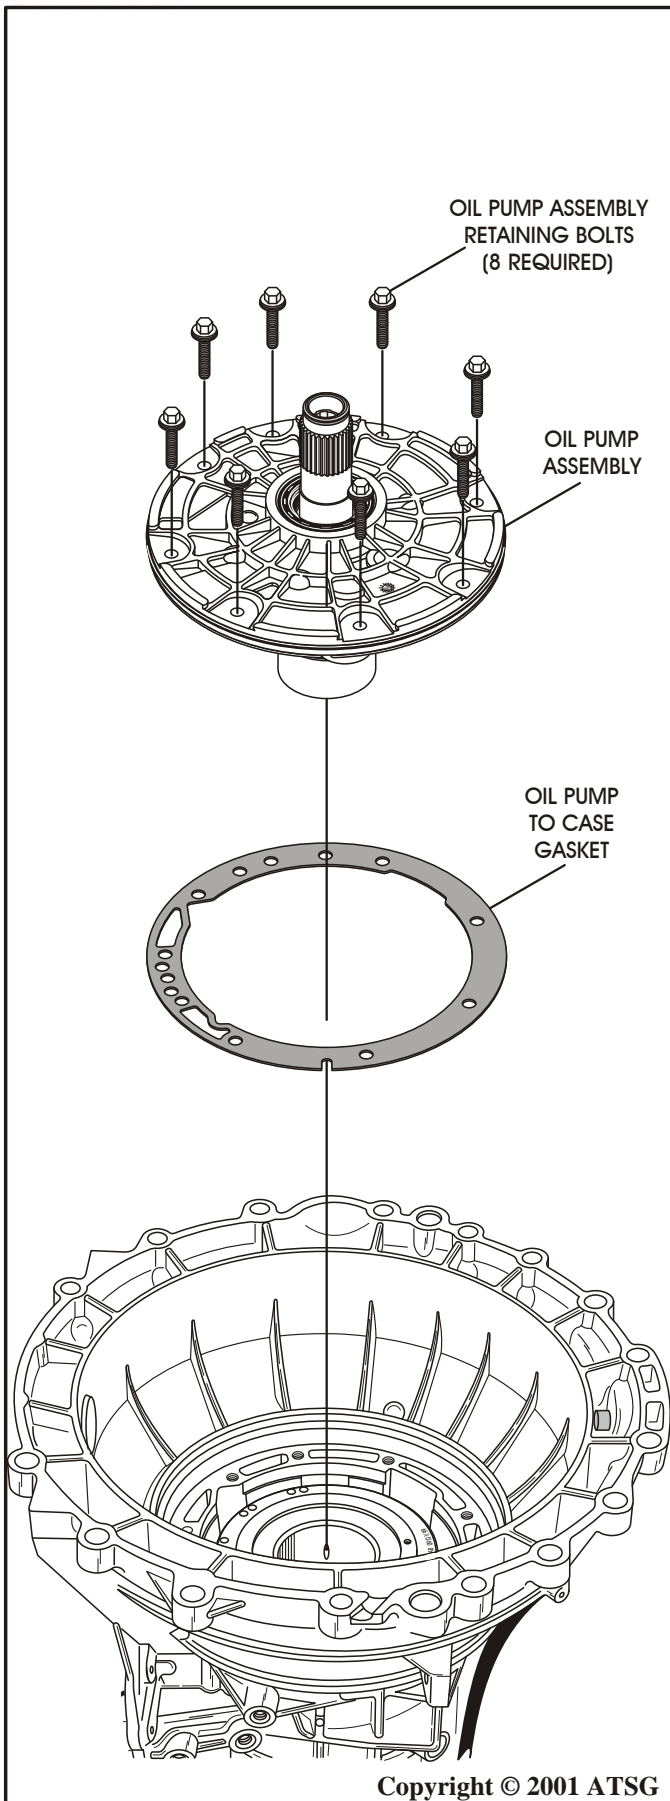

Figure 168
57. Install the oil pump to case gasket into case, as shown in Figure 168, and align holes.
59. Install the pre-assembled oil pump assembly into the case, as shown in Figure 168, using care not to damage the pump "O" ring.